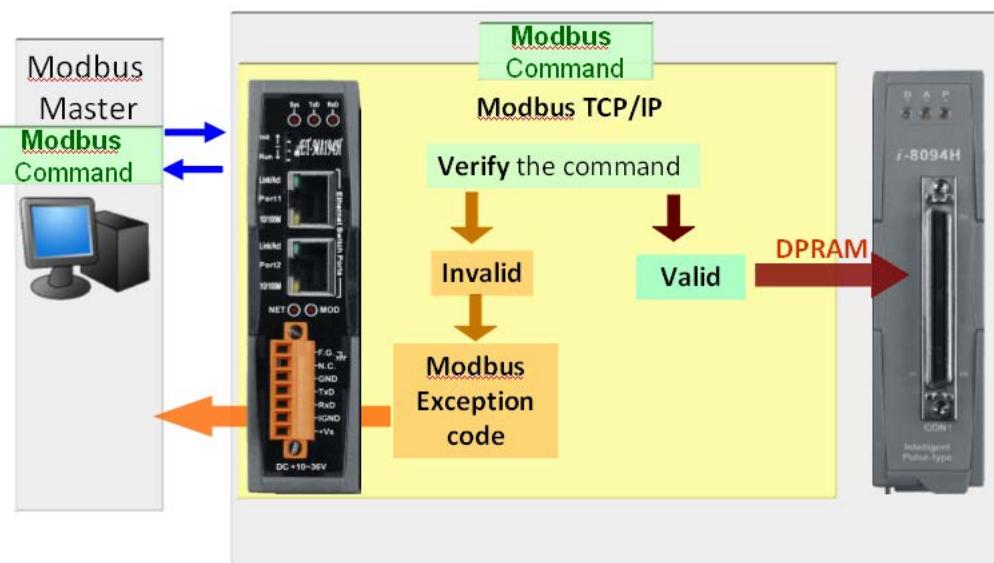

Figure 1: ET-M8194H module in slot 0 of the motion device
- The ET-M8194H module (Figure 1) in slot 0 is the unit which is mainly responsible for the Modbus communication between the Master and Slave. The main task of the module is to verify and filter every command arriving at its TCP/IP port according to its current state and consequently decide whether to transfer the command to the i-8094H or, if the command is not supported by the respective state, ignore the command and respond to the Master with a Modbus exception code.